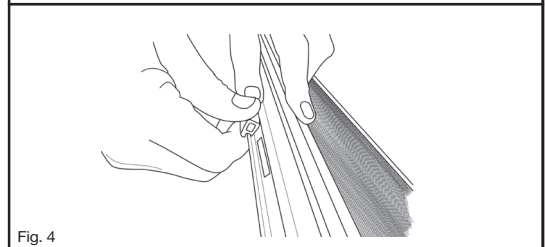

Fig. 4
- 4 Install plastic top guides.** Position guides in top channel and pop into place near each end. Tap lightly with hammer if required (Fig. 4).